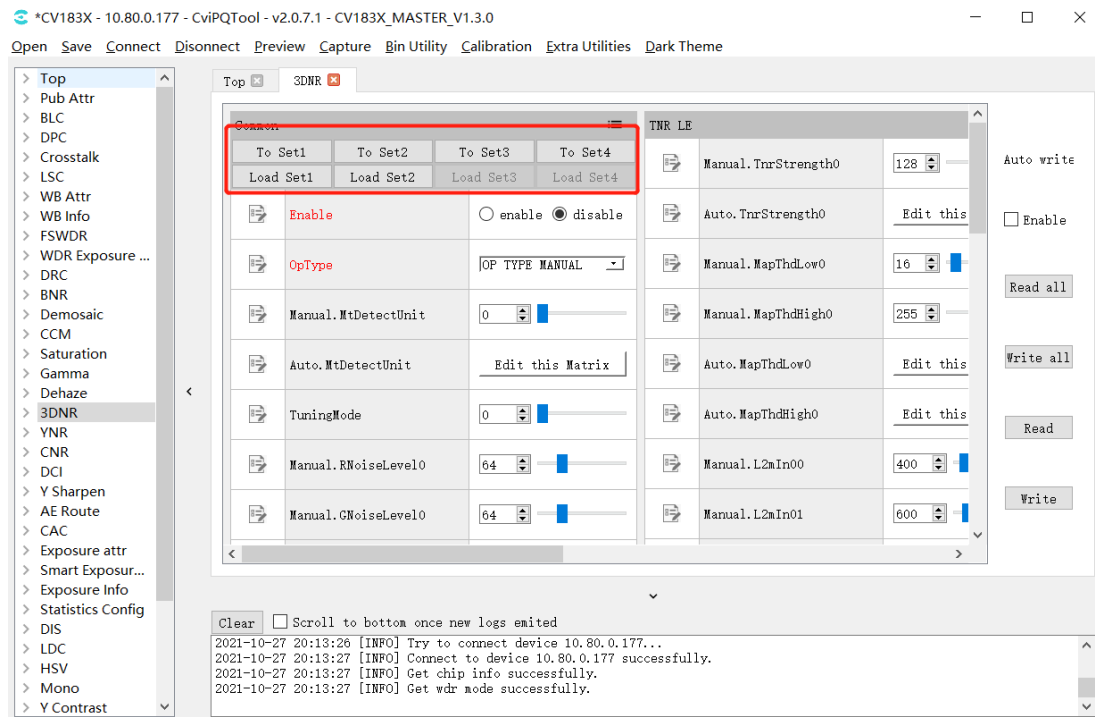

Fig. 3.4: Parameter temporary storage operation interface (taking 3DNR as an example)
The tool provides four groups of data temporary storage space for each tuning group. The user can use the “To Set” button to save the adjusted values of parameters, and then use the “Load Set” button to restore and compare. The detailed operation instructions are shown in Figure 3-4. Please refer to the following instructions.
3. Click the “Load Set” button to restore the previously stored value. Take figure 3-4 as an example: If the user has stored “Set1” and “Set2” two groups of values temporarily, “Load Set1” or “Load set2” button can be used to quickly recover and compare them.